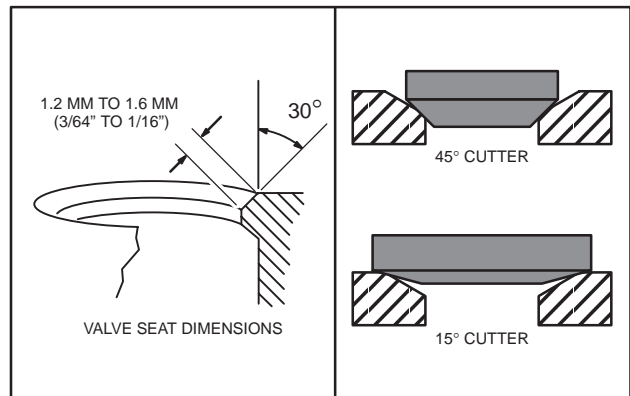

Fig. 18 – Valve Seat Dimensions
If valve seat is wider than dimension shown in Fig. 18, a narrowing cutter should be used to ensure that contact area of valve seat is centered on face of valve.
- a. Use a 45° cutter to narrow seat from bottom and a 15° cutter to narrow seat from top, Fig. 18.